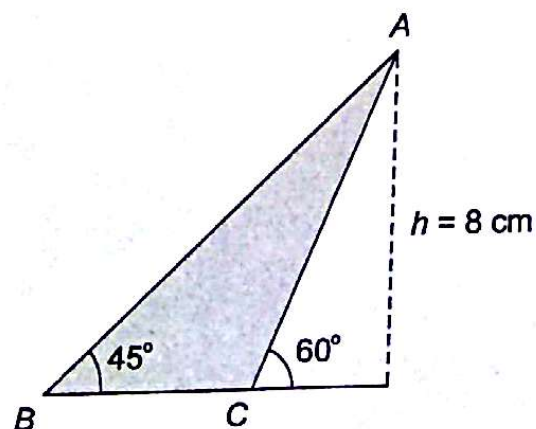

Fig. 5.15
- 5.2 What is moment of inertia of triangle ABC as shown in Fig. 5.15 about base BC?